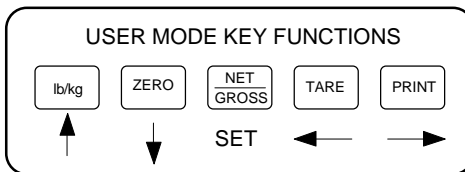

Figure 5-1: User Menu Key Assignments
3. Use the four directional keys (shown in Figure 5-1 below) to adjust the displayed value to the actual ID Number value. Increase the flashing digit by pressing the lb/kg key. Decrease the flashing digit by pressing the ZERO key. Pressing the PRINT key or the TARE key will change the position of the flashing digit.
3. Use the four directional keys (shown in Figure 5-1 above) to adjust the displayed value to the actual line feeds value. Increase the flashing digit by pressing the lb/kg key. Decrease the flashing digit by pressing the ZERO key. Pressing the PRINT key or the TARE key will change the position of the flashing digit.